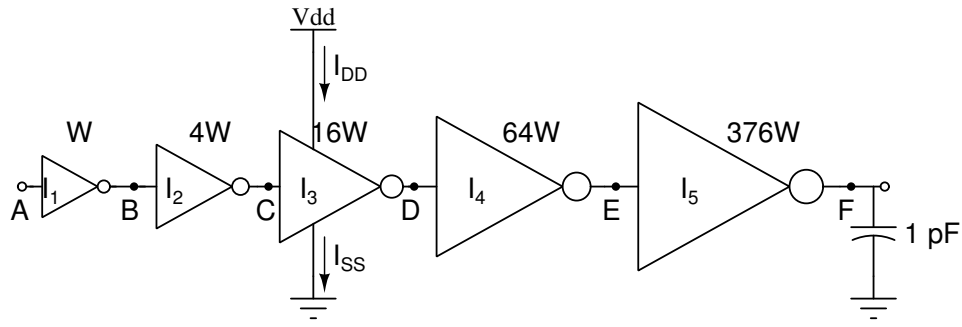

Figure 2
4. A typical CMOS inverter is considered to drive 4 similar inverters or having a fan-out of 4 (FO4 inverter). We want to characterize the delay of FO4 inverter, for which input and output waveforms should also be typical in nature. Consider the figure 2, where an inverter with size ' W ' has following parameters : $L = 0.18\mu m$, $W_n = W = 1.8\mu m$ and $W_p = 2.5 \times W_n$. Write a net-list for the given configuration and apply a piece wise linear input at node 'A' as follows : $V_{in} \text{ vin A } 0 \text{ pwl } (0 \text{ } 0V \text{ } 0.5ns \text{ } 1.8V \text{ } 1.1ns \text{ } 1.8V \text{ } 1.5ns \text{ } 0V \text{ } 10ns \text{ } 0V)$.